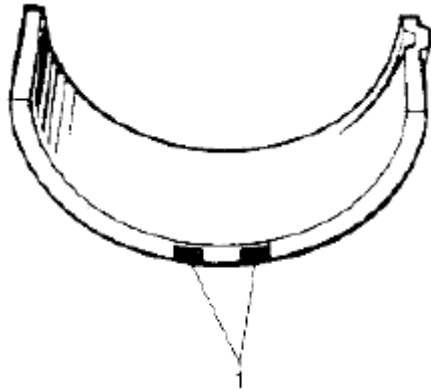

Fig. 193: Identifying Paint Mark For Undersize Main Bearing Thickness
To distinguish them, each bearing is painted (1) in the following colors at such position as indicated in **Fig. 193**. Each color represents the following thickness at the center of bearing.